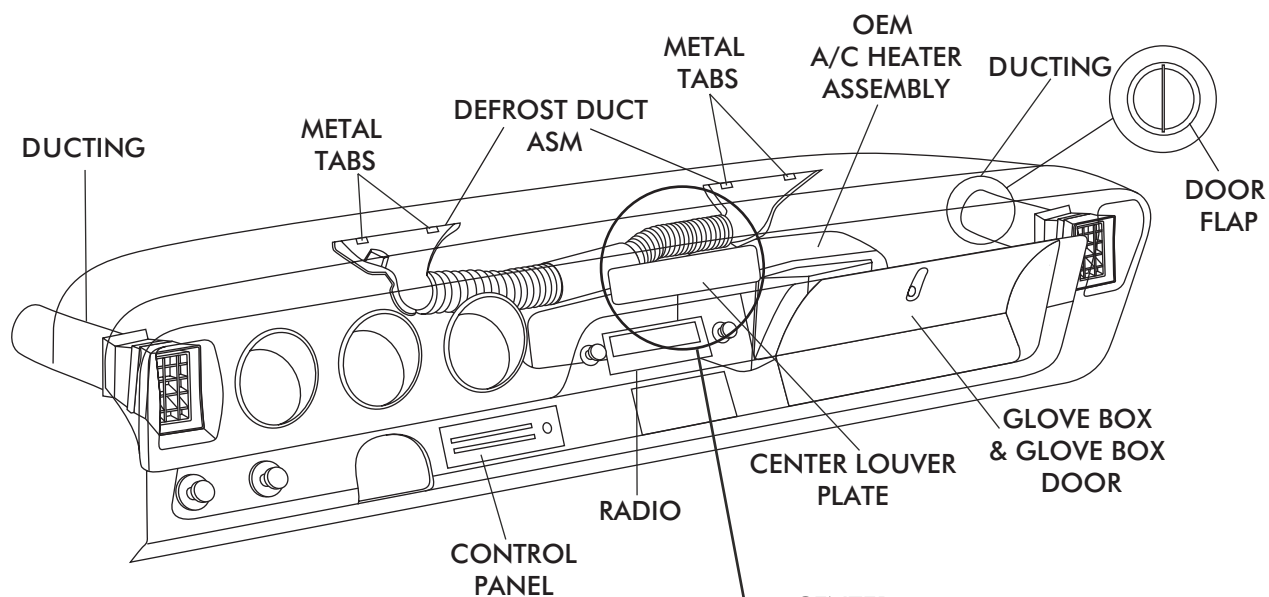

FIGURE 2
- REMOVE GLOVE BOX DOOR (RETAIN) AND GLOVE BOX (DISCARD) (SEE FIGURE 2 BELOW).
- ALL DUCTING FROM OEM LOUVERS. SEE FIGURE 2 BELOW.
- OEM DEFROST DUCT ASSEMBLY BY STRAIGHTENING 4 METAL TABS. SEE FIGURE 2 BELOW.
- OEM A/C HEATER ASM (DISCARD). SEE FIGURE 2 BELOW.